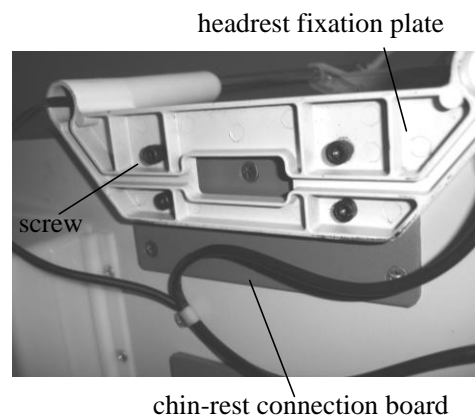

Fig.5
- ♦ Remove the four screws attached to the chin-rest connection board with the hex wrench (P).
- ♦ While ensuring they are not clamped, retighten the previously removed screws (Fig.5).